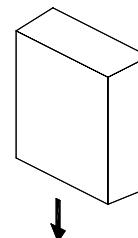

fig 8
② Install the receiver: shoot the hanging hole (as fig 6) to the tap screw on wall then pull down the Receiver case slightly (as fig 8)